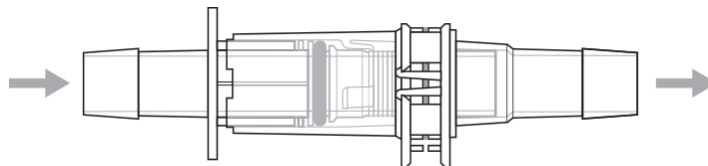

Figure 5.35. Beginning fluid transfer.
- After the Kleenpak connector assembly is complete, the assembly aid may be removed. When the assembly aid is removed, verify actuation until a hard stop is reached. Then start the fluid transfer (Figure 5.35).